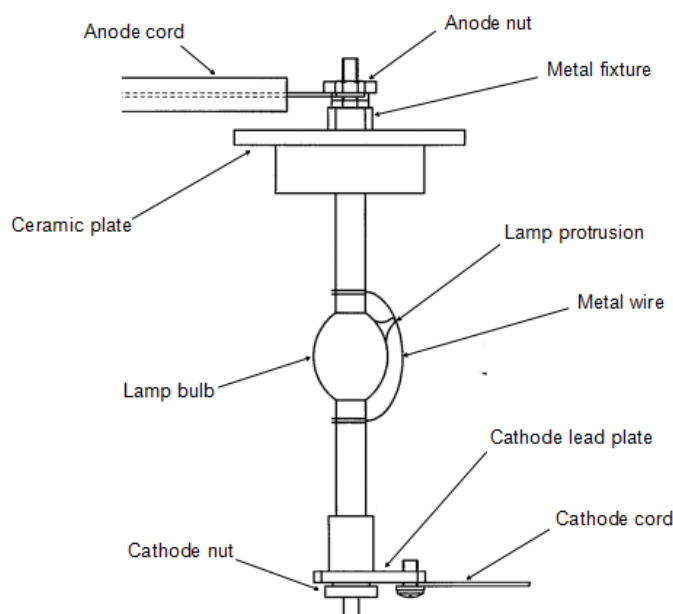

Fig. 8-5 Removing an indicator
Loosen the anode nut of the lamp and remove the anode side of the lamp (+ mark side) from the support buckle secured to the ceramic plate (Figure 8-5).
- ⑦ Loosen the cathode nut and remove the reed plate from the cathode side of the lamp (Figure 8-5).